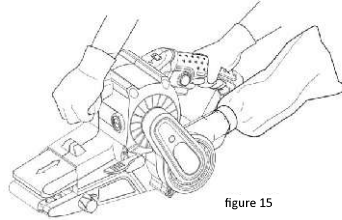

figure 15
- Hold the tool with one hand on the front handle (1) and the other on the rear handle (5) (figure 15).